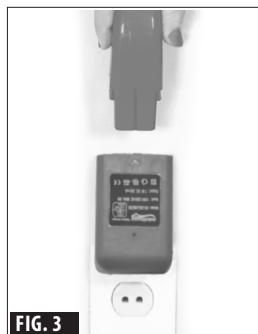

FIG. 3
- Align the arrow on the "Rechargeable Battery" with the arrow on the "Battery Charger". Then, insert the "Rechargeable Battery" down into the "Battery Charger" (see FIG.3).